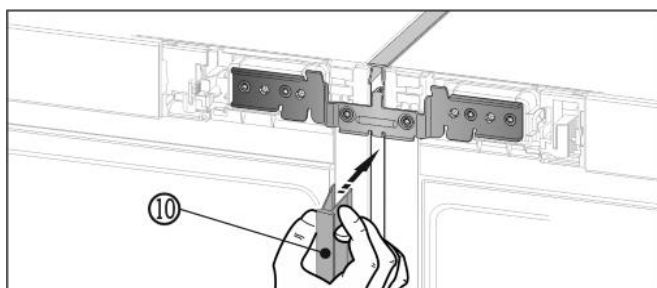

Fig. 14
- On the front, press the long trim Fig. 14 (10) into the vertical gap. Ensure that the strip rests on the connecting plate.